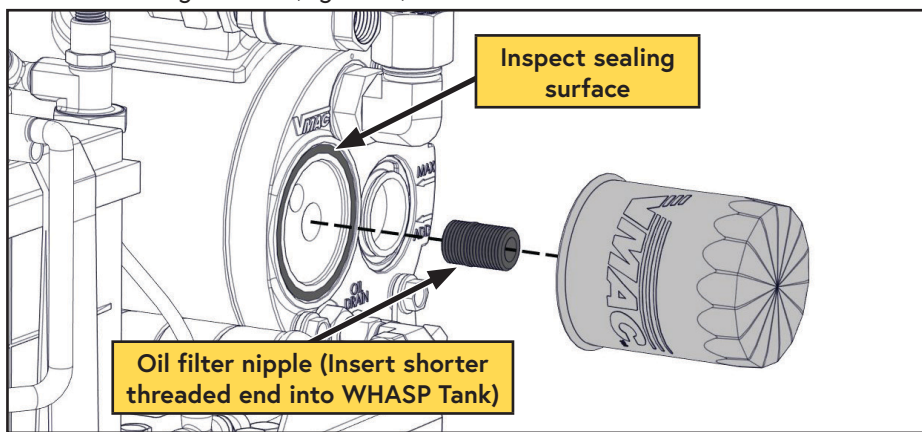

Figure 38 — Compressor oil filter
- ☐ *To reinstall the nipple, thoroughly clean the threads and apply Loctite 242 (blue) to the end with the short threads and replace it in the AOST (Figure 38).
- ☐ Clean the gasket sealing surface on the front of the tank and inspect it for damage. The surface must be free of old gasket material and smooth to ensure a good seal (Figure 38).